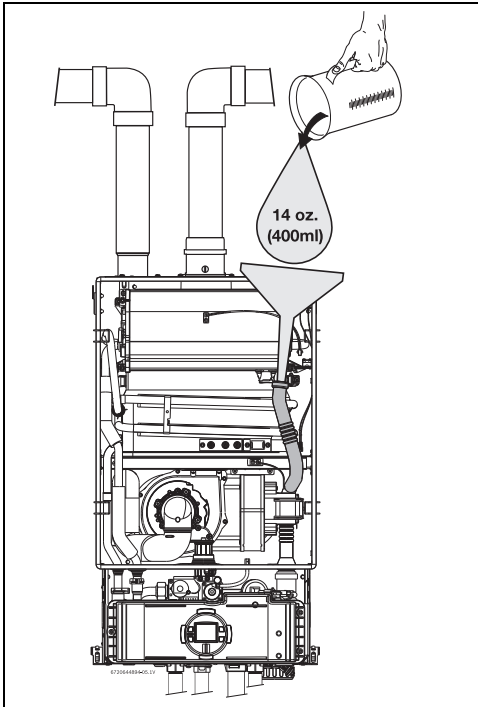

Fig. 40 Filling the condensate trap after installation
- ▶ Fill the condensate trap by pouring approx. 14 oz. (400ml) of water into the top of the drain tube. To avoid damage to the appliance use a funnel in this operation, see fig. 40, page 46.